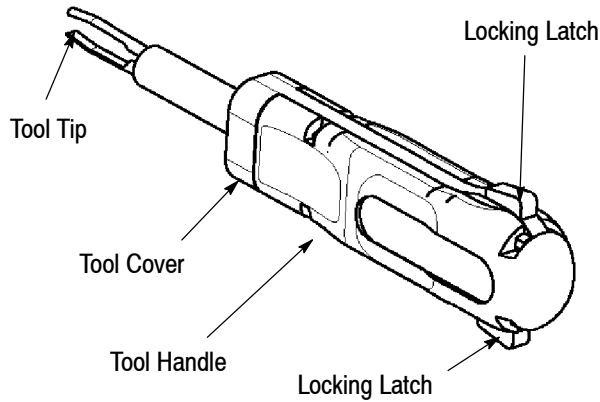

Figure 1
1. Depress the locking latches (Figure 1) on the extraction tool cover and slide the cover to expose the extraction tool tips.
Extraction Tool 1-1579007-6 consists of a tool handle, tool cover with locking latches, and an extraction tool tip. Refer to Figure 1.